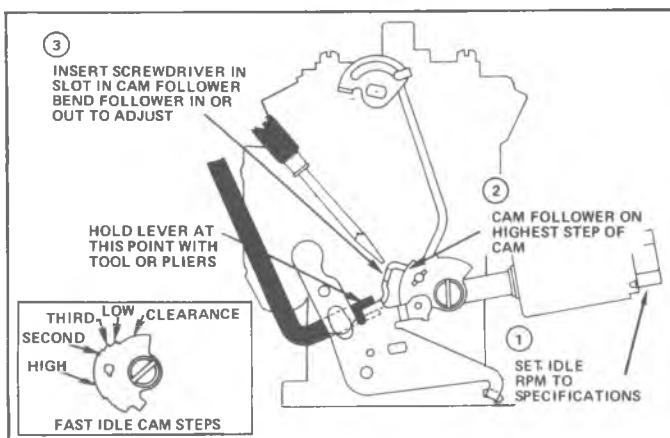

Fig. 1C--Fast Idle Adjustment (Rochester MV)
FAST IDLE ADJUSTMENTS (Figs. 1C, 2C and 3C) ROCHESTER MV AND 4MV
- b. Bend fast idle tang on throttle lever as required on Rochester MV to specified speed (Fig. 1C).